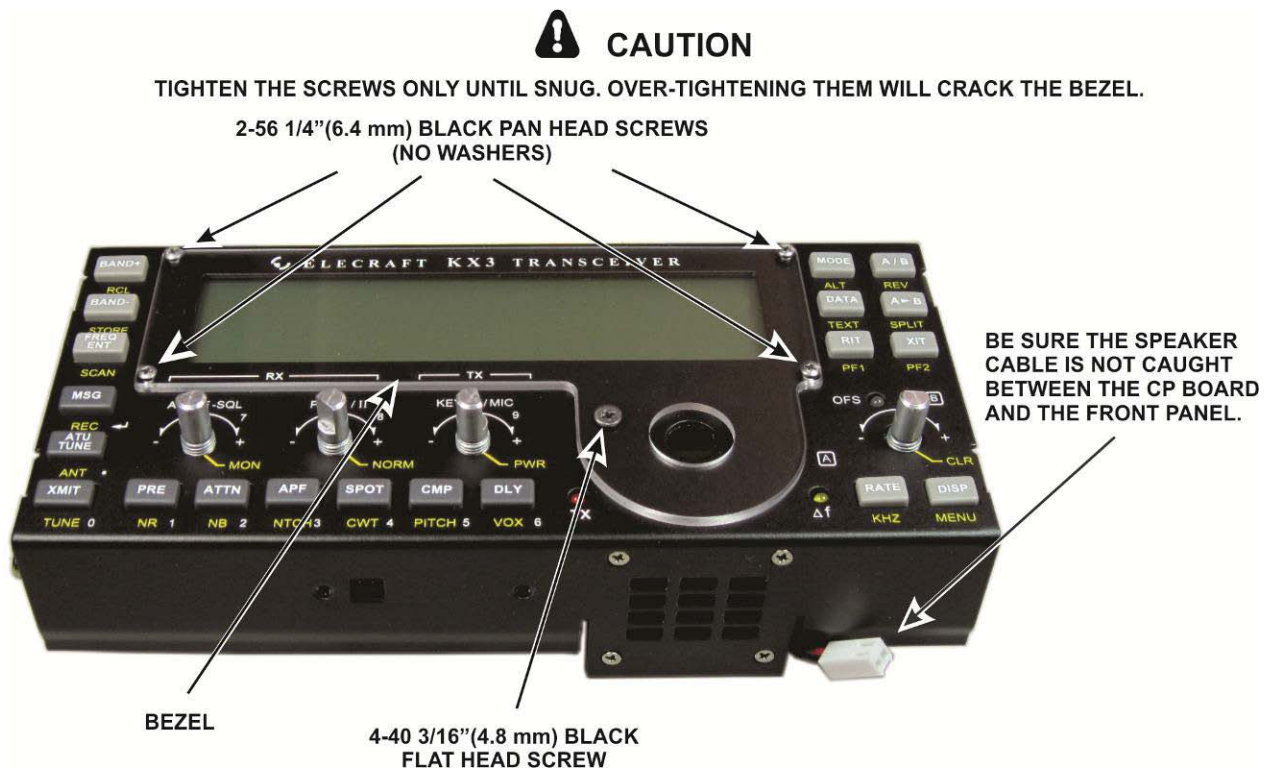

Figure 14. Placing the CP Board in the Front Panel.
- Place the front panel over the CP board as shown in Figure 14. You will need to reach under the CP board and lift it up into position with the four encoders through the corresponding holes in the front panel. While positioning the CP board:
- Place the bezel on the front panel and secure it, and the CP board inside, as shown in Figure 14.